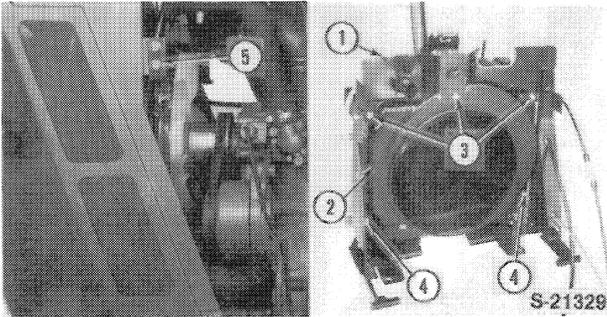

Figure 20
25. Remove the three air flow baffle mounting screws (3) and remove the baffle (1), Figure 20.
26. Remove the two fan shroud mounting screws (4), Figure 20.
27. Remove the engine side screen pin bracket (5) and reposition the fan shroud so as to be clear of the radiator and side screens.